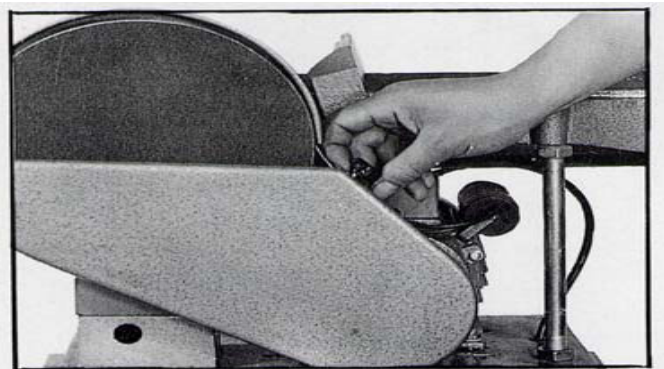

Fig 10.
1. Loosen the knob and open the disc guard as shown in Fig 10.